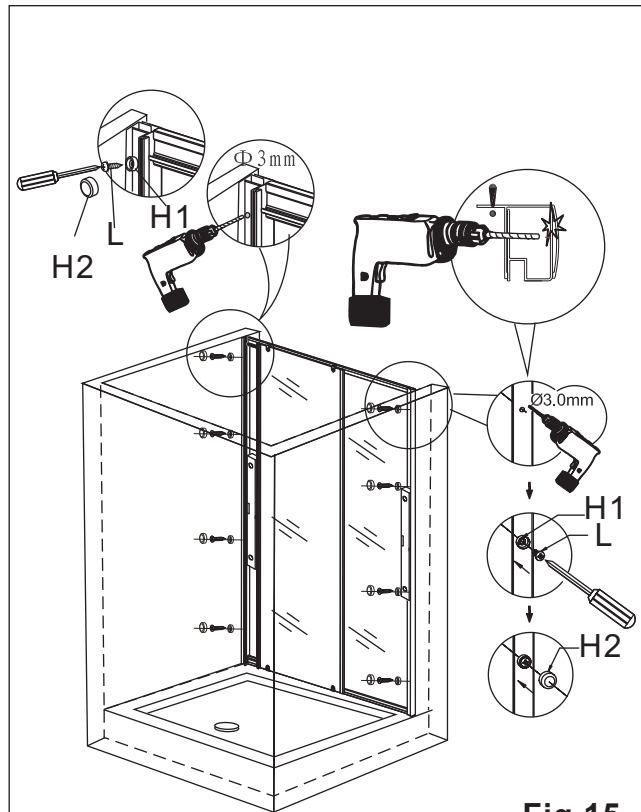

Fig.15
15c. Secure the profiles using screws ST4x12mm (L) and screw cap washers (H1). Cover with screw caps (H2) as per **Fig.15**.